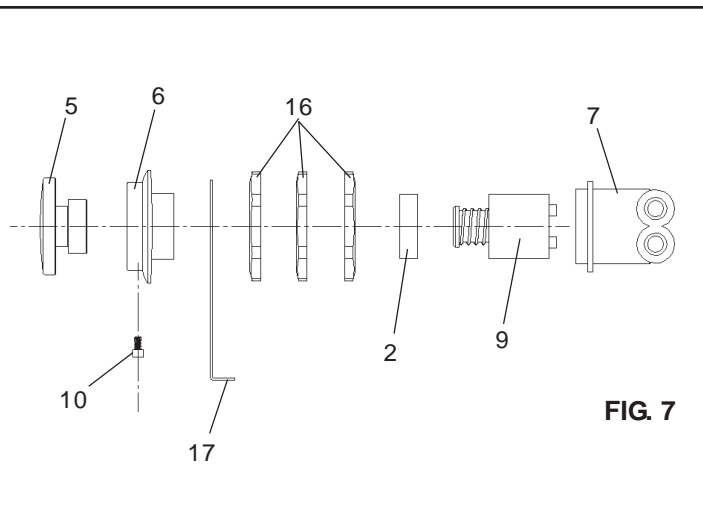
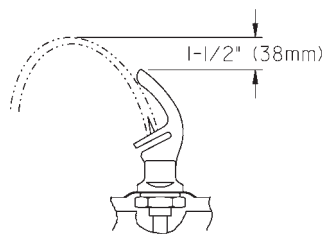

FIG. 7
FIG. 8
7. **Check stream height from bubbler.** Stream height is factory set at 45-50 PSI. If supply pressure varies greatly from this, adjust the screw on regulator item 9 by using a small screwdriver through the small hole in the push button item 5 (See Fig.7). Clockwise adjustment will raise stream height and counter-clockwise adjustment will lower stream height. For best adjustment stream height should be approximately 1-1/2" (38mm) above the bubbler guard. (See Fig. 8).